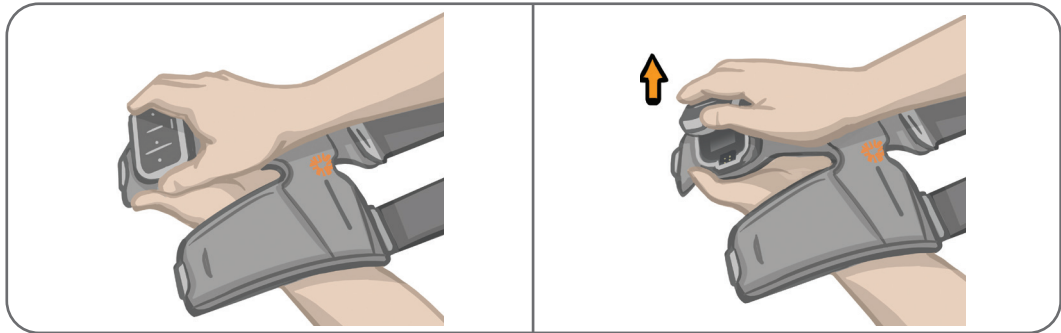

Figure 8-4: Removing the EPG
2. Pull the top of the EPG away from the cradle. See Figure 8-4.